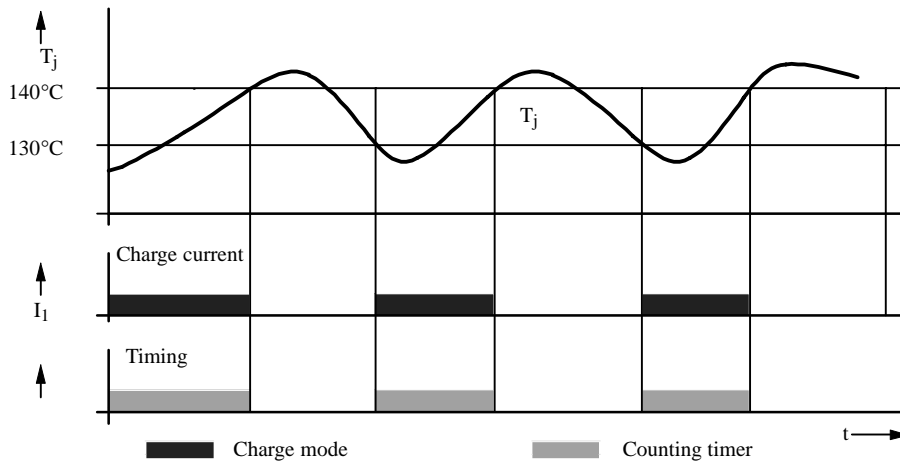

Figure 5. Charge duration – overtemperature
The oscillator is connected to GND via Pin 3 (V_3) which holds the present time status. When the chip temperature decreases below the transition value, all functions are released and the charge time is continued. The process is reversible. If there is a higher power dissipation in the circuit ($T_j > 140^\circ\text{C}$), the temperature monitoring remains permanently activated (ON). The total cycle time is prolonged according to the interrupt-time duration, see figure 5.